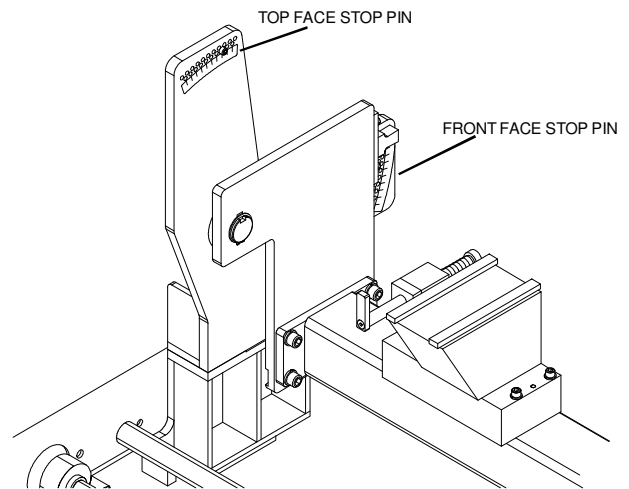

FIG. 20
2. Move the tooling Rotation Actuator so the tooling bar stop is at midpoint between the front face stop and the top face stop. See Fig. 20.
3. Move the Tooling Rotation stop pin for the front face to the correct angle. See Fig. 20.
4. Move the Tooling Rotation stop pin for the top face to the correct angle. See Fig. 20.